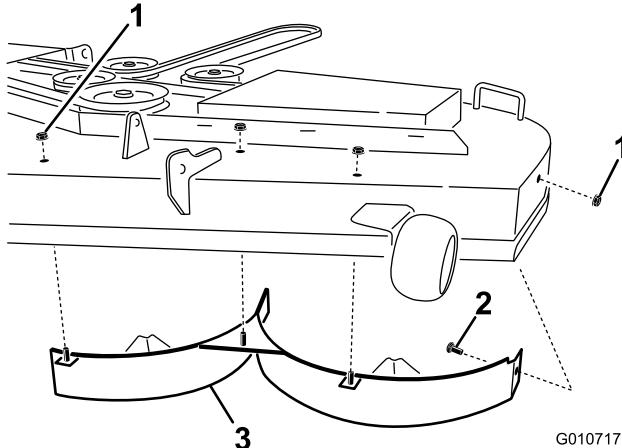

Figure 10
- Install the left baffle to the mower deck as shown in Figure 10. Use three lock nuts (5/16 inch) to secure the welded posts of the right baffle to the top of the mower deck at the center, left of center and left positions. Hand tighten the fasteners.